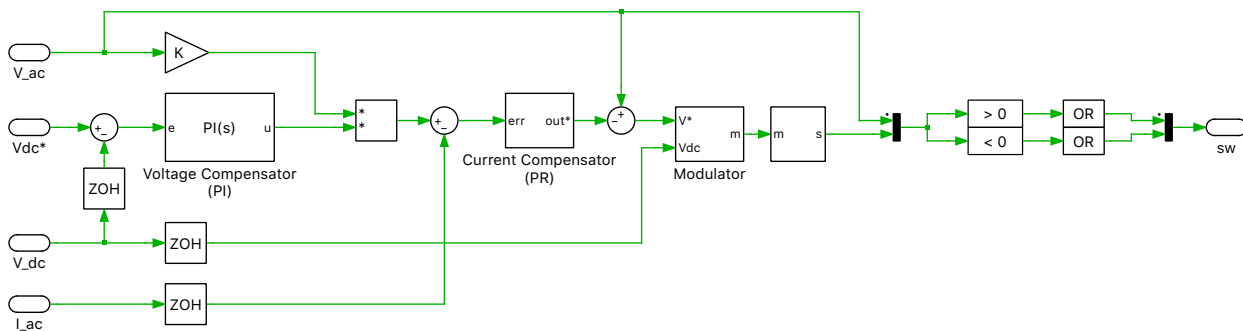

Figure 6: Controller schematic
Fig. 6 depicts, the control scheme is composed of two loops - an outer voltage loop and an inner current loop. The error signal obtained by comparing the measured output voltage (DC) against a voltage setpoint is given to the outer loop proportional-integral (PI) controller for voltage compensation. The voltage loop output is multiplied by the input voltage signal (AC) to generate the current reference. The inner loop proportional-resonant (PR) controller [2] controls the input current to follow the current reference. The resulting value is provided to a modulator for PWM generation. Logic is included in the controller such that the switches S1 and S2 either conduct or modulate throughout a half cycle based on the input voltage.